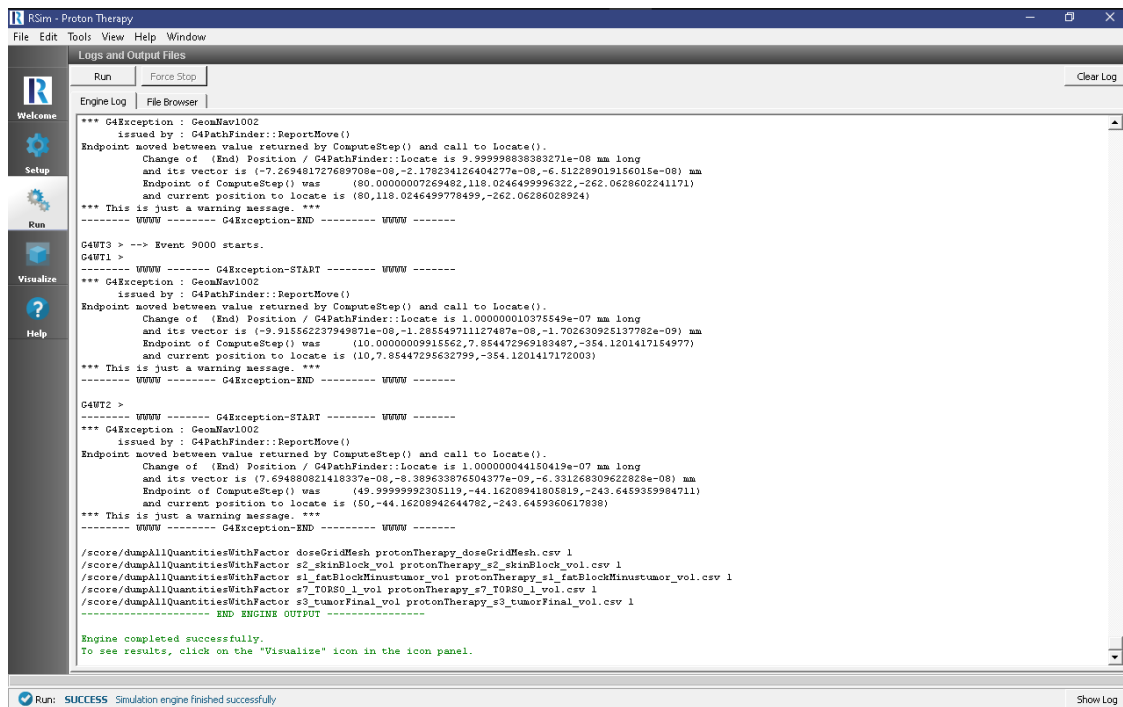

Fig. 2.21: The Run Window at the end of execution.
- To run the file, click on the *Run* button in the upper left corner of the *Logs and Output Files* pane. You will see the output of the run in the right pane. The run has completed when you see the output, “Engine completed successfully.” This is shown in Fig. 2.21.